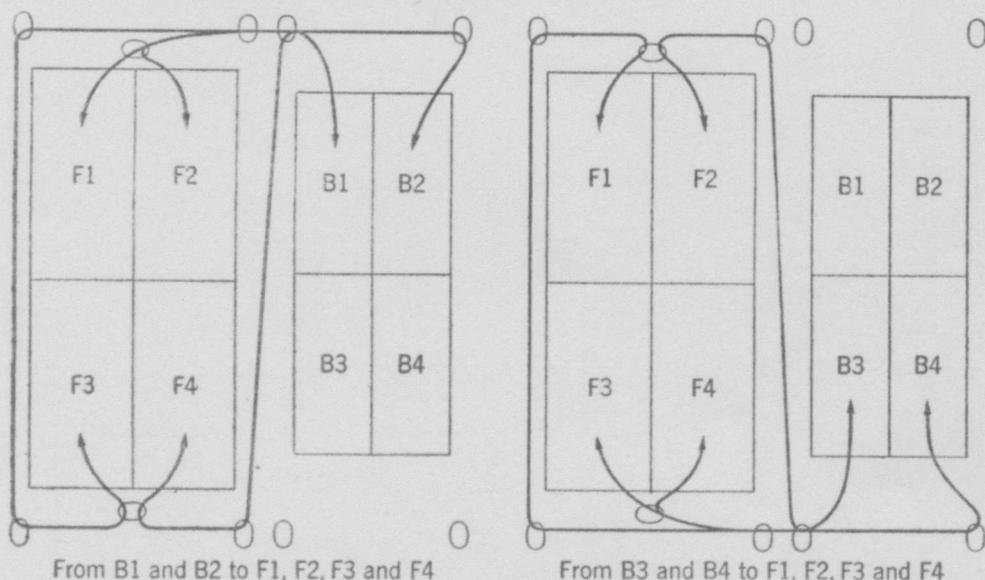

Fig. 3—Wiring Schematic of LA Type Cable Terminal.
3.02 In order to provide a uniform wiring arrangement and avoid congestion of jumpers it is desirable to place the jumpers in accordance with Fig. 3. The numbered sections F1, F2, etc., and B1, B2, etc., in Fig. 3 are formed by visually dividing the fuse and binding post chambers into four approximately equal quadrants.
Pass the jumper through the distributing rings in the order shown in Fig. 3. Before cutting the jumper be sure to provide sufficient overall length to permit leaving about 2 inches slack. The proper amount of slack can usually be obtained by allowing sufficient length to reach the next binding post beyond the one on which the jumper is to be terminated both in the fuse chamber and the binding post chamber.